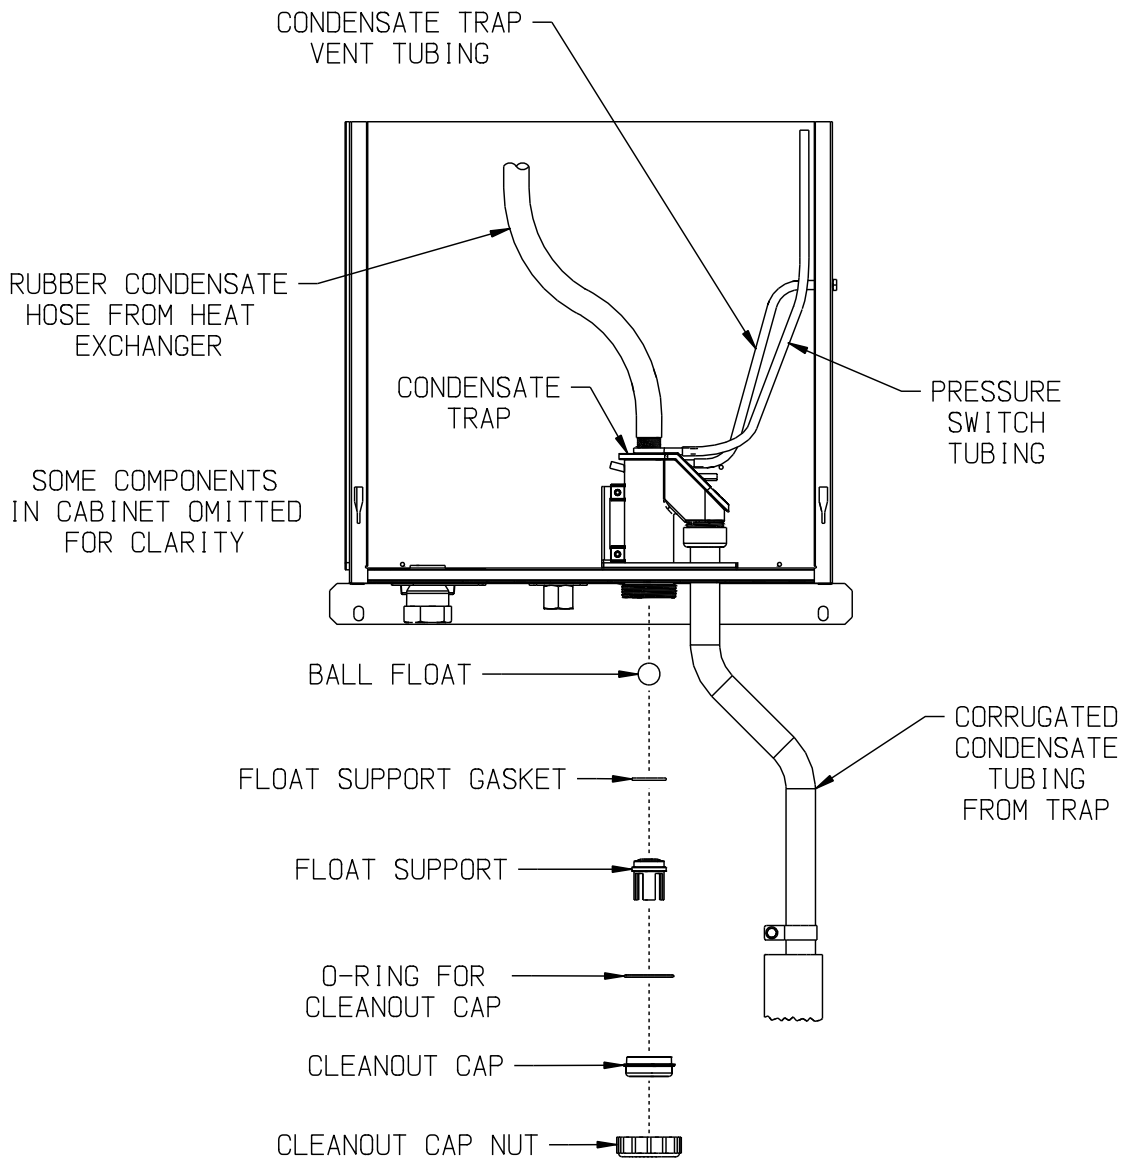

FIGURE 13.3: CONDENSATE TRAP EXPLODED PARTS VIEW
- p. **Inspect and clean the condensate trap.** Place a bucket under the condensate cleanout cap on the bottom of the boiler (Figure 2.1) to catch water in the trap as well as the ball and ball support. Unscrew the cap, being careful not to lose the ball or ball support. Flush any debris found in the trap with water – do not use other cleaning agents. Reassemble the trap as shown in Figure 13.3.